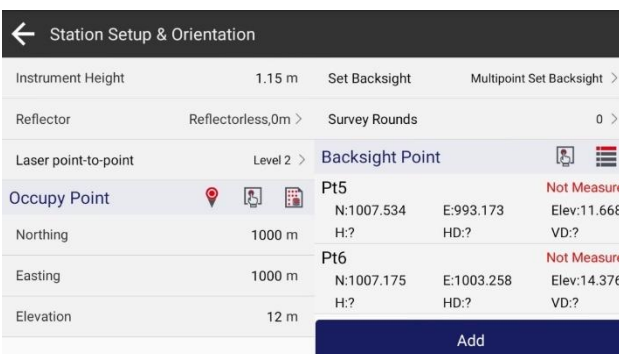

Figure 3.2-3
2. Multipoint Set Backsight, as shown in Figure 3.2-3, 3.2-4. Set multiple known backsight points, observe them separately, obtain device angles and distances to the known points, Surpro 6.0 will calculate the angle differences, as well as the accuracy error of each point, and set the angle difference to the device. At the same time, the scale correction factor can be calculated based on the distance, which can be used to correct the distance measured by the total station.